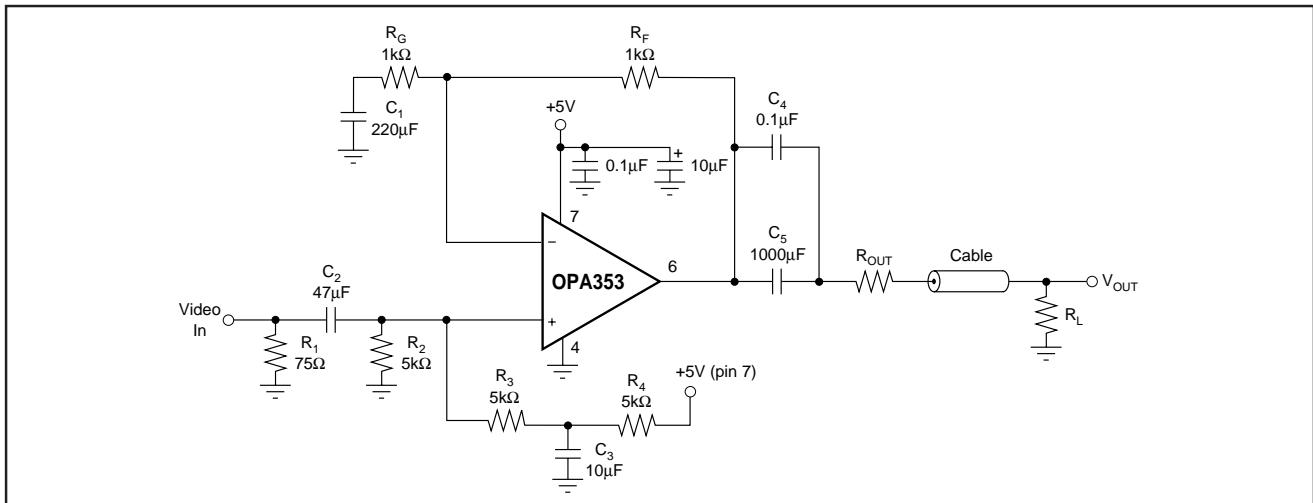

FIGURE 6. Single-Supply Video Line Driver.
NOTES: (1)  $V_S = +5V$ . (2)  $V_{OUT} = 0.25V$  to  $2.75V$ . (3) NTSC signal generator used. See Figure 6 for test circuit. (4) Output voltage swings are measured between the output and power supply rails. (5) See typical performance curve, "Output Voltage Swing vs Output Swing."
Figure 6 shows a circuit for a single supply,  $G = 2$  composite video line driver. The synchronized outputs of a composite video line driver extend below ground. As shown, the input to the op amp should be ac-coupled and shifted positively to provide adequate signal swing to account for these negative signals in a single-supply configuration.
The input is terminated with a  $75\Omega$  resistor and ac-coupled with a  $47\mu\text{F}$  capacitor to a voltage divider that provides the dc bias point to the input. In Figure 6, this point is approximately  $(V_-) + 1.7\text{V}$ . Setting the optimal bias point requires some understanding of the nature of composite video signals. For best performance, one should be careful to avoid the distortion caused by the transition region of the OPA353's complementary input stage. Refer to the discussion of rail-to-rail input.